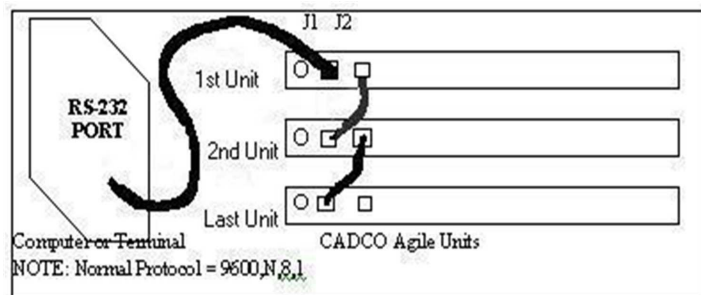

Figure 2-3
3. Using the customer-made interface cable which will connect to the interface device (terminal modem port or modem) RS-232 port, connect the first unit to port of the interface device. See Figure 2-3.